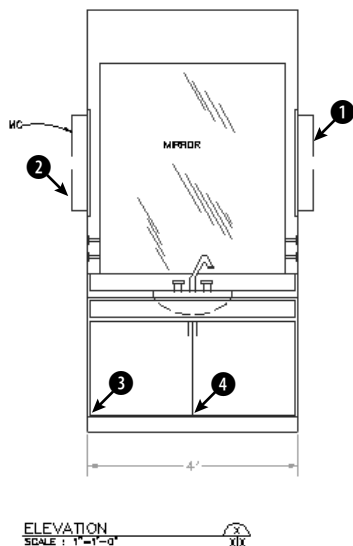
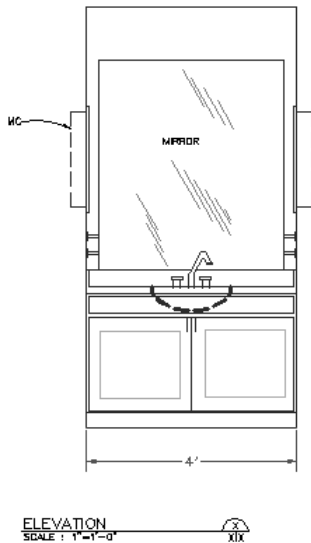

Figure 11-21: A lavatory cabinet.
Figure 11-22: The finished cabinet.
2. Save the file as `ab11-04.dwg` in your `AutoCAD Bible` folder. This is an elevation view of a lavatory cabinet, shown in Figure 11-21.
5. Pick the lines at ❶ and ❷ in Figure 11-21. Click the Linetype Control drop-down list and choose the Hidden linetype. Press Esc so that the hidden lines are no longer selected.
8. Start the RECTANG command. Draw a rectangle inside the left cabinet. Use the COPY command to copy the rectangle to the right cabinet. (To copy, use an intersection object snap at point ❸ as the base point and ❹ as the second point of displacement.) The rectangles are drawn in cyan.
9. Save your drawing. It should look like Figure 11-22.